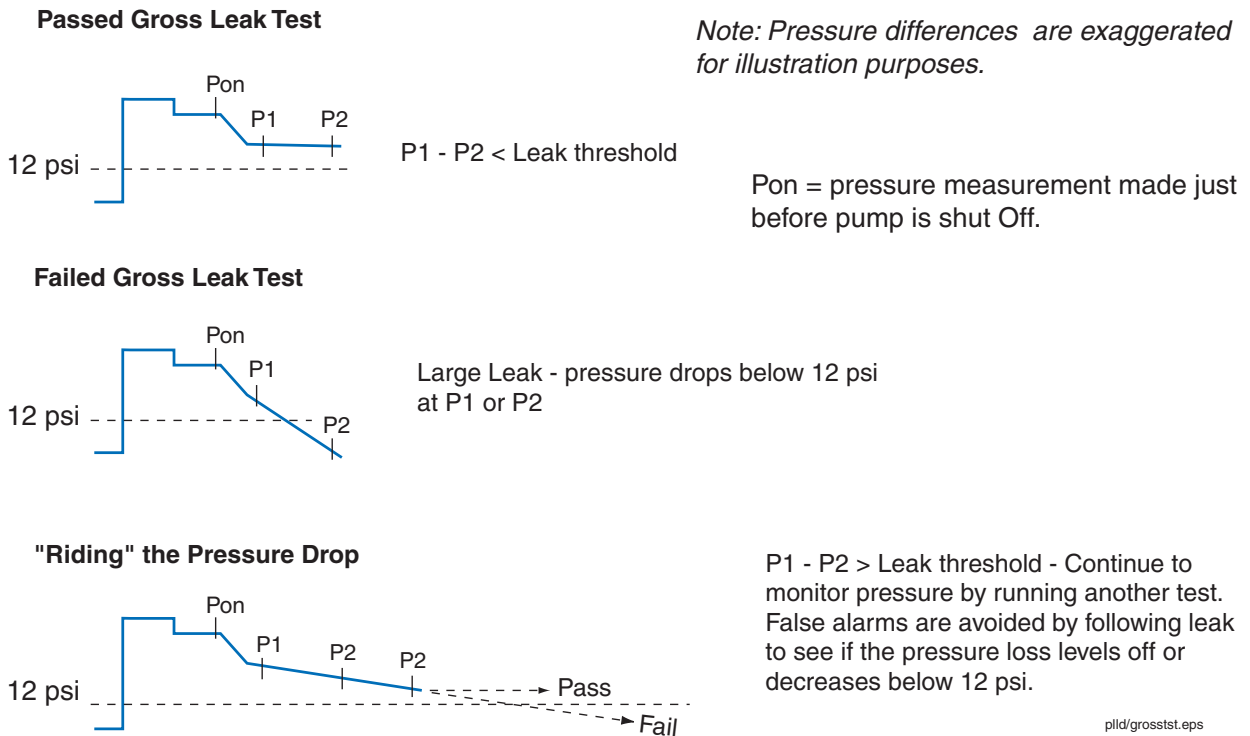

Figure 5. Gross Leak Test Diagram
| Figure 5. | Gross Leak Test Diagram | 5 |
1. After the pump is turned Off, the test waits time T1 for the line pressure to vent down to the relief valve pressure of approximately 22 psi. At this time the reference pressure, P1, is measured (see Figure 5). If P1 is below 12 psi it is assumed there is a large leak and a retest is run to confirm the leak. If it fails yet again, a "Gross Test Fail" alarm is posted.